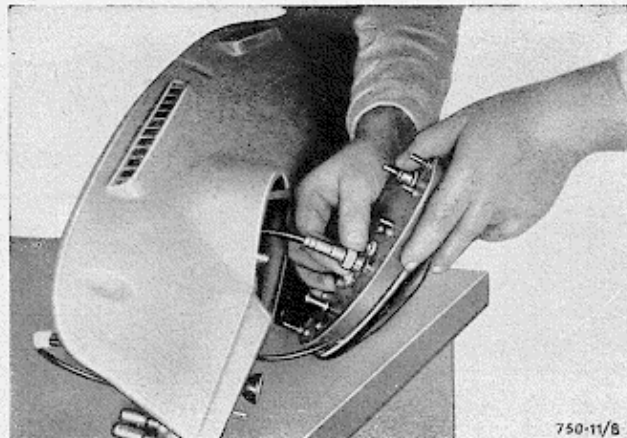

Fig. 7 - Disconnect the flexible speedometer drive cable from the instrument panel
- remove the panel and disconnect the speedometer cable and all the electrical leads to the panel instruments (Fig. 7);